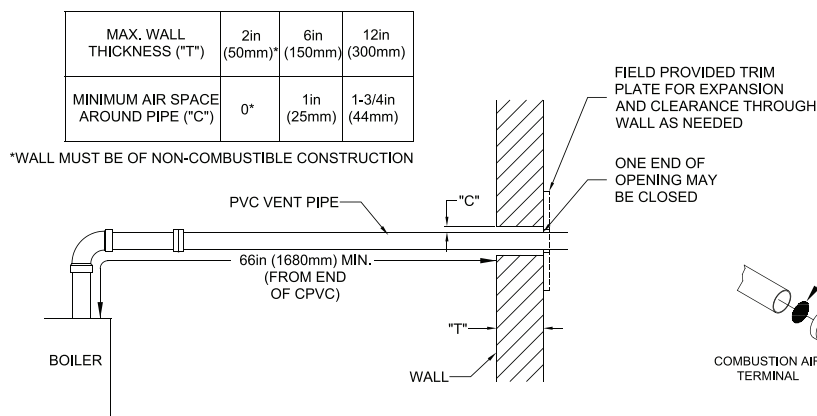

Figure 12: Wall Penetration Clearances for PVC Vent Pipe
- h. For ALP080BW and ALP105BW vent size can be reduced from 3" nominal diameter to 2" nominal diameter by mounting installer provided 3" x 2" CPVC concentric reducing coupling or PVC concentric reducing coupling, in vertical position only, onto the end of supplied CPVC vent pipe. See Table 5A Notes and paragraph 6 'Horizontal Sidewall Termination' and Figure 12 'Wall Penetration Clearances for PVC Pipe for PVC usage for venting limitation). Thereafter, the balance of vent pipe up to vent termination can be done with PVC (ASTM 2665) pipe.
- j. For ALP080BF and ALP105BF vent size can be reduced from 3" nominal diameter to 2" nominal diameter by mounting installer provided 3" x 2" concentric CPVC reducing coupling or PVC concentric reducing coupling, in vertical position only, onto the end of supplied CPVC vent pipe/elbow combination. See Table 5A Notes and paragraph 6 'Horizontal Sidewall Termination' and Figure 12 'Wall Penetration Clearances for PVC Pipe for PVC usage for venting limitation. Thereafter, the balance of vent pipe up to vent termination can be done with PVC (ASTM 2665) pipe.
- Following the installation of factory supplied near boiler CPVC venting components (30" long pipe and 90° elbow, where applicable) **PVC pipe may be used to penetrate combustible or non-combustible walls up to the exterior vent termination only if the following three conditions are met simultaneously** (see Figure 12):
- The minimum air space shown in Figure 12 is maintained around the outside of the vent pipe to provide air circulation.
- Install contractor provided optional trim plate on wall outside surface to cover wall opening (see Figure 12).